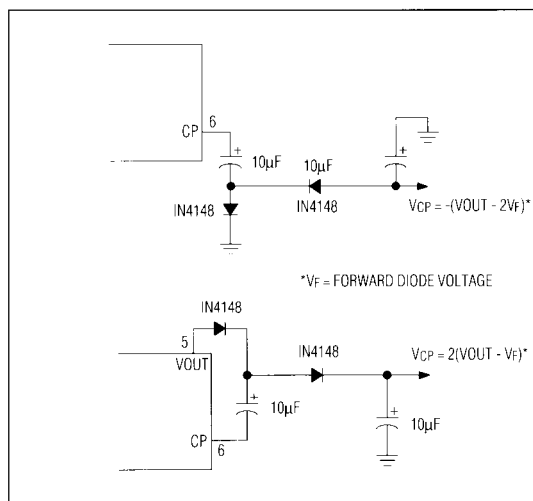

Figure 3. Using the Charge Pump (CP) output as a voltage inverter and/or doubler. Both circuits can be used together.
| 6   | CP   | The Charge Pump output is a low impedance buffer which swings from GND to VOUT at the oscillator frequency. 2 external capacitors and diodes can be connected to generate a negative output voltage (Figure 3).                                                                     |
The Charge Pump (CP) output is a low impedance buffer which swings from ground to VOUT at the oscillator frequency. Two external capacitors and diodes can be connected, as shown in Figure 3, to generate a negative output voltage of  $-(V_{OUT} - 1.2V)$  or a positive output of  $2(V_{OUT} - 1.2V)$ . 1.2V is the forward drop of 2 silicon diodes. Both circuits can be used at once if desired. With 10µF capacitors, the output impedance of VCP is about 30Ω. If space is critical, the capacitors can be reduced, but with a slight increase in output impedance and VCP output ripple.